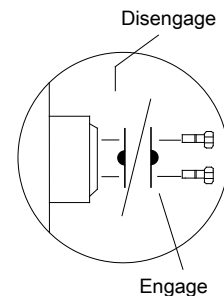

Figure 8-1
1. Choke the wheels to prevent the machine from rolling. 4WD models: Turn over the both rear torque hub disengage caps to release the brake, as shown in Fig 8-0, page 8-1. Turn counterclockwise the orifice valve on the traction manifold to the end, as shown in Fig 8-1, page 8-1.